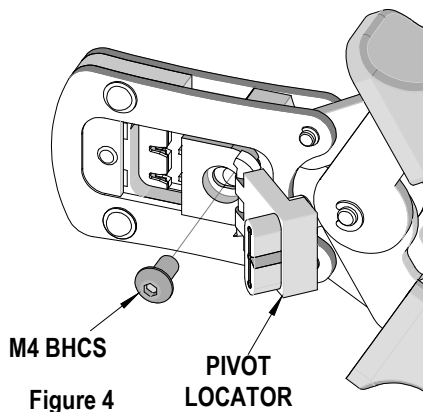

Figure 4
2. Remove the M4 BHCS. See Figure 4.
1. Place the proper locator (See chart on page 2) on the hand tool. Install the M4 BHCS. See Figure 4.